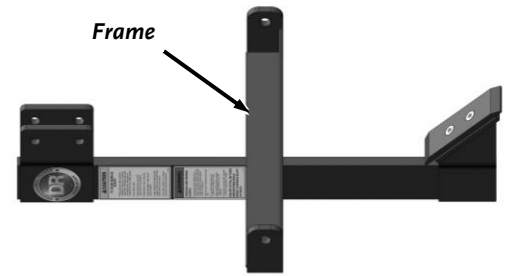

Figure 4
2. Position the Frame on the working surface (**Figure 4**).